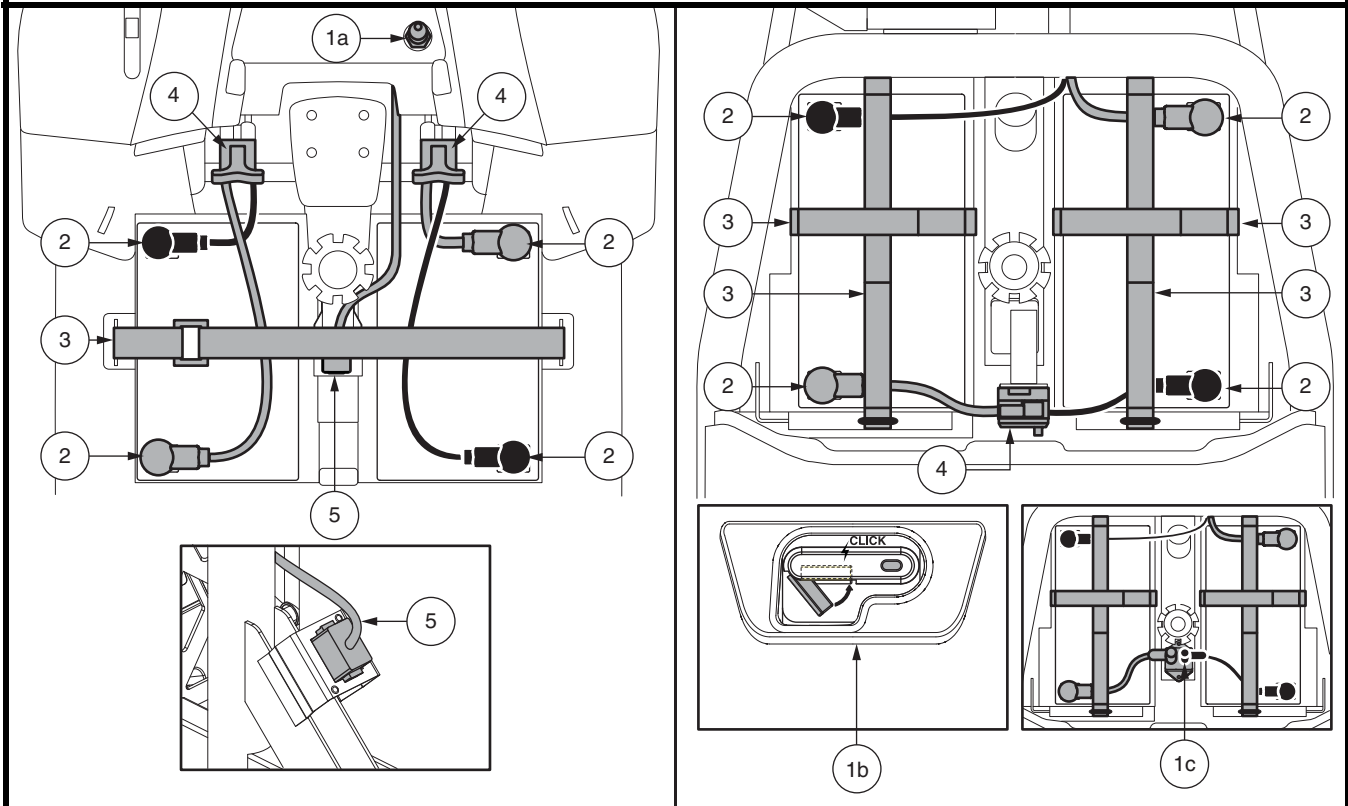

Figure 14. Battery Removal/Installation Terminals and Connections
3. For all models EXCEPT 614 and 714, disconnect the front-to-rear harness. Unplug both battery harnesses by pulling each harness out of its mating plug. See figure 14.
6. Place a new battery in each battery well. Face the battery terminals of each battery away from the seat post with the positive (+) and negative (-) battery terminals positioned as shown in **figure 14**.